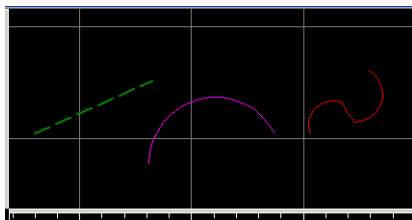

Figure 3-13. Plot a Line
3. Click the 'append point' cursor on the first point, then click on the second point. The line will be created between these two points (Figure 3-13 on page 34).